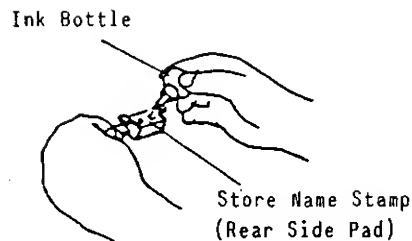

Fig. 21
5. Apply ink on the pad on the rear side of the Store Name Stamp. The amount of the refilling should be adjusted according to the density of the printed message, but the limit of 2 c.c. should not be exceeded. (The ink bottle supplied contains 5 c.c. of ink.) (Fig. 21)